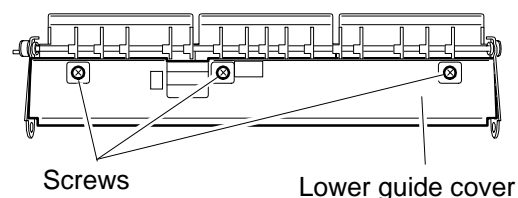

Fig. 9
- 8) Remove the 3 screws and the lower guide cover. (Fig. 9)